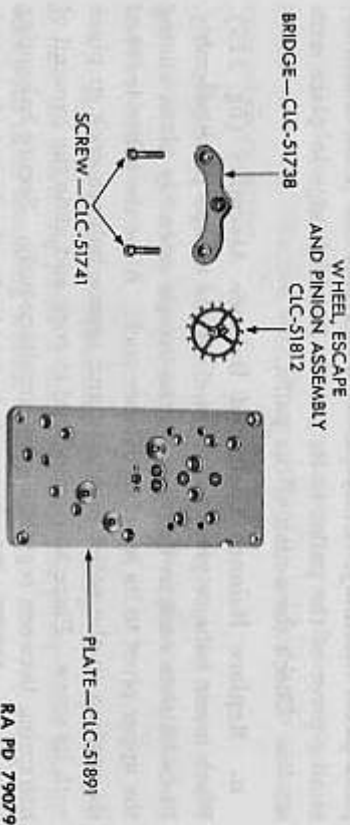

Figure 217 — Message Center Clock M1 — Escape Wheel Bridge and Escapement Removed
i. Replace Escape Wheel and Pinion Assembly. Place escape wheel and pinion in position on escape plate (fig. 217).
l. Replace Escape Wheel Bridge Assembly (fig. 217). Replace the escape wheel bridge, aligning the pivot of the escape wheel to its jewel, and secure with bridge screws. This completes the assembly of the train. At this point check freedom of the intermediate wheel to the escape wheel.